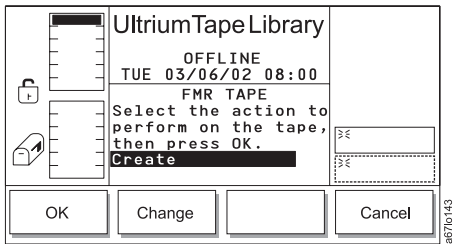

Figure 4-195. FMR Tape Dialog
4. Press the button below the **FMR Tape** softkey. The FMR Tape Dialog displays (see Figure 4-195 on page 4-106) with the Create or Erase function highlighted.